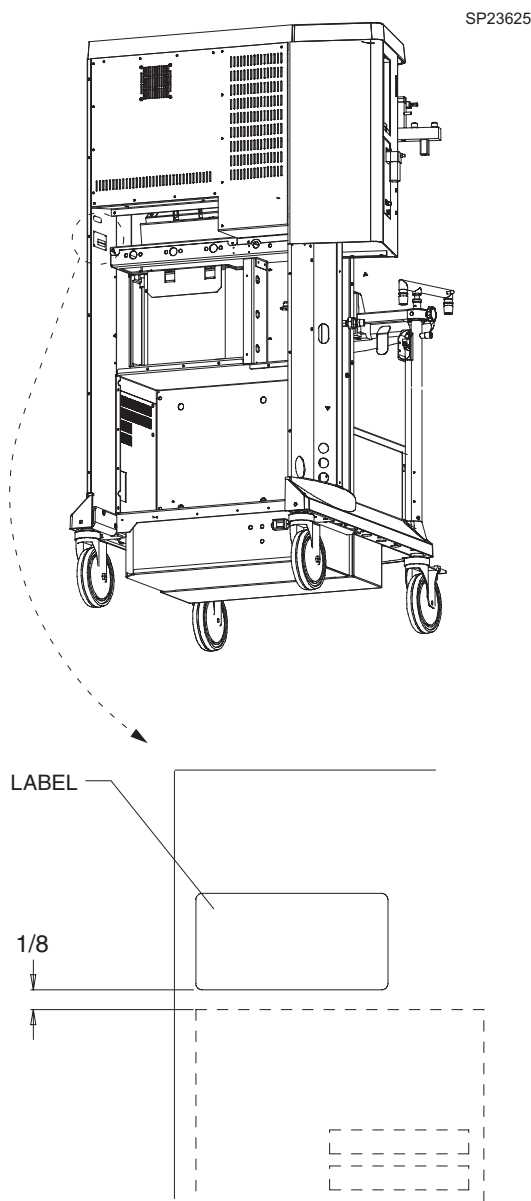

FIGURE 1-24. Label Installation
- 1.48 Attach the SW 4.02 label (P/N 4118451) above the serial number label at the back of the machine where shown in FIGURE 1-24. If an option requiring a Keylok was enabled, attach its corresponding label above the SW 4.02 label.